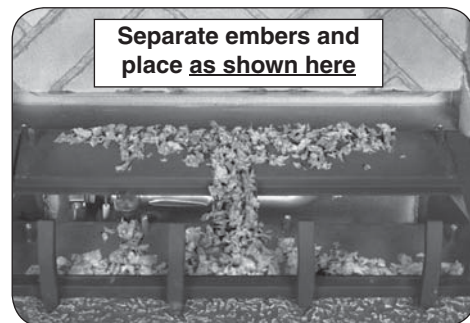

Fig. 33-4 D1-30/36: Place glowing embers
1. Separate the glowing embers into small pieces and evenly place them along the burner ports as shown in Fig. 33-4.